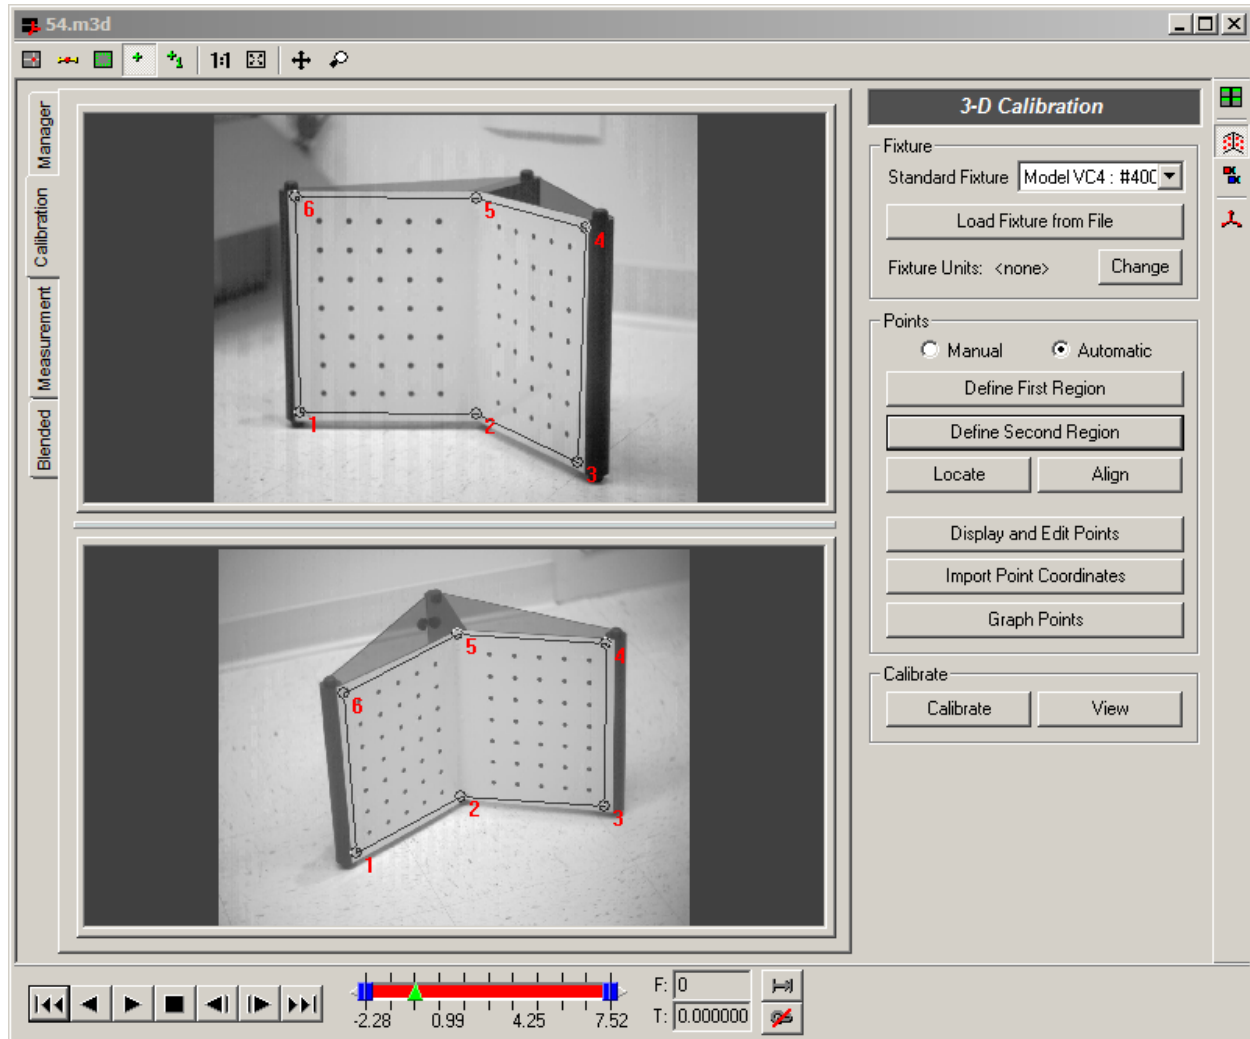

Figure 4. Point definition for first and second regions
4. Click the **Define First Region** button. A message appears prompting you to click on the 6 corners of the region that you wish to select. Start at the lower left corner, and click six points counter clockwise around the perimeter of the top calibration fixture image. Make sure that the region encompasses all of the points on the fixture, and that the points are clicked in the order shown in Figure 4.